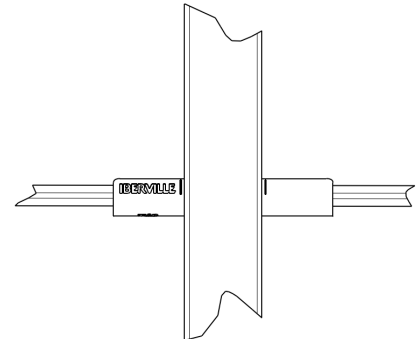

Figure 3
3. With the openings of the cylinder facing away from the stud, hammer the protector cylinder into the hole in the stud until it is centered. Note: the positioning score line should be visible on each side of the stud (Figure 3). The openings of the cylinder should not face the front surface of the stud.